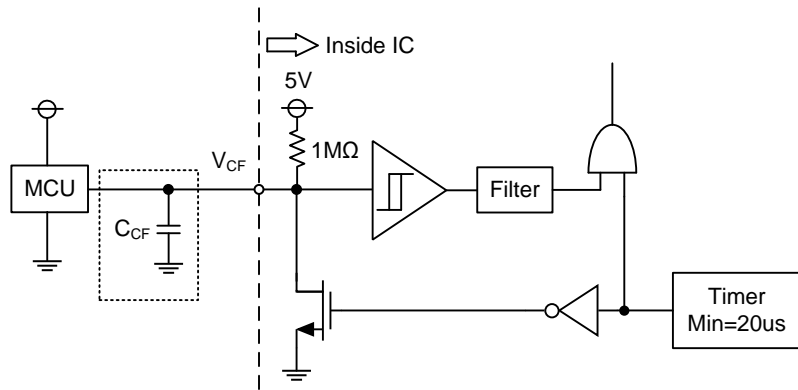

Figure 1. V_{CF} Output Circuit
- Fault output signal V_{CF} becomes low when one of protections OT, SC or UVLO is triggered. When failures happen like UV or OT, V_{CF} keeps low continuously until recovering from UV or OT state. 20 μs indicates min. fault output duration time without pull-down capacitor. It can be controlled by the capacitor value as shown in Figure 1.
Capacitor C5 can adjust fault output pulse duration time V_{CF}. Without C5, V_{CF} has fixed minimum 20 μ s pulse width. For the design guide, please refer to the Figure 1.